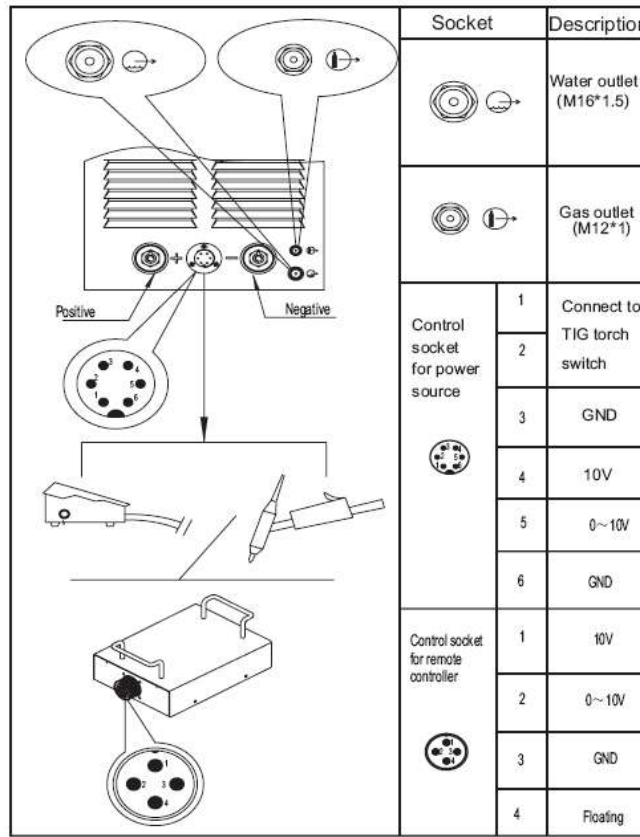

Fig. 4-4-1: Interface on front panel
- Interface on front panel (Fig. 4-4-1):